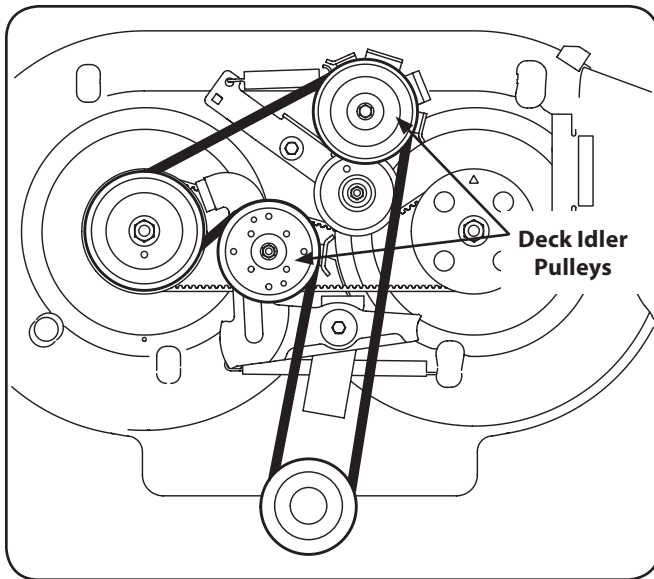

Figure 7-8
4. Loosen, but not remove, the nut and bolt which secures each deck idler pulley. See Fig. 7-8.